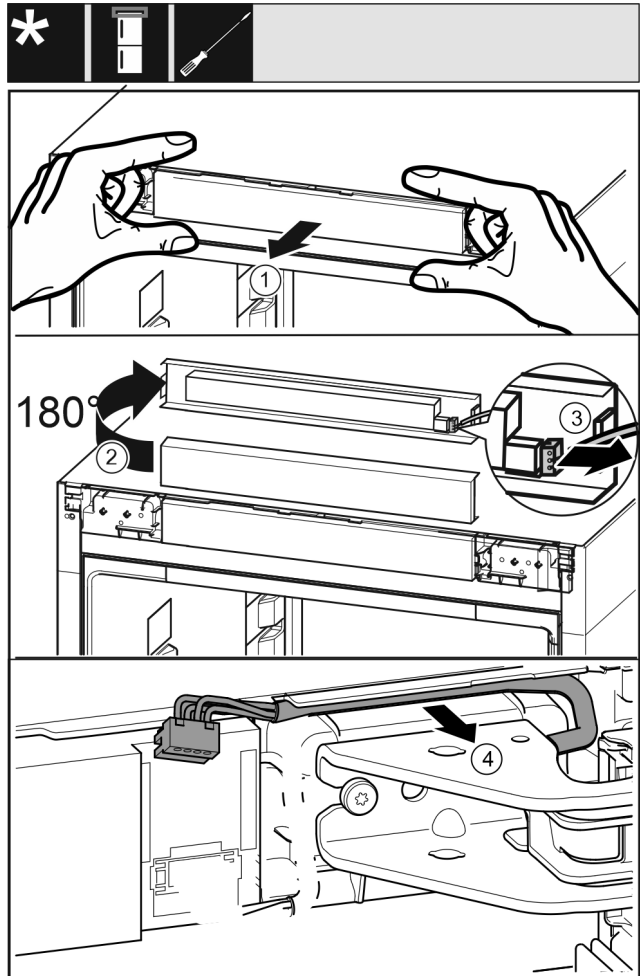

Fig. 8
- Carefully release the control panel trim Fig. 8 (1) forwards.
- Turn the control panel trim Fig. 8 (2) upwards by 180°.
- Push the locking tab Fig. 8 (3) backwards and remove the plug carefully.
- Release the cable over the swap bearing block Fig. 8 (4) from the guide carefully.